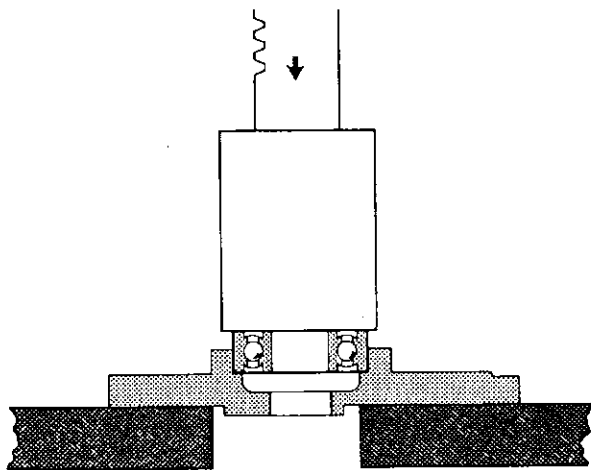

Figure 6.17
10. Press the lower end plate bearing (40) into the lower end plate (39), as shown in Figure 6.17. Install the bearing retainer (41) using the four bearing retainer screws (43) and lockwashers (42). Torque the screws to 25-30 in. lbs. (2.8 to 3.4 N·m).